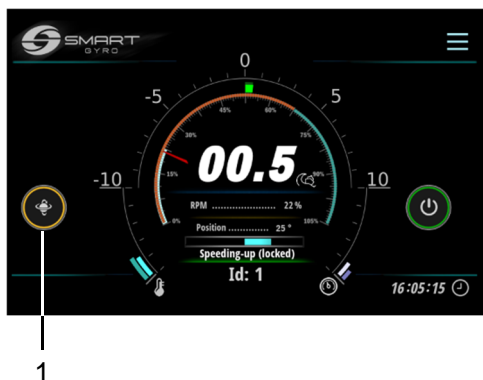

Figure 6
6. During flywheel acceleration and as long as the speed remains below 55% of the top speed, precession is not allowed and the circle around the precession icon (**Figure 6, (1)**) is yellow.